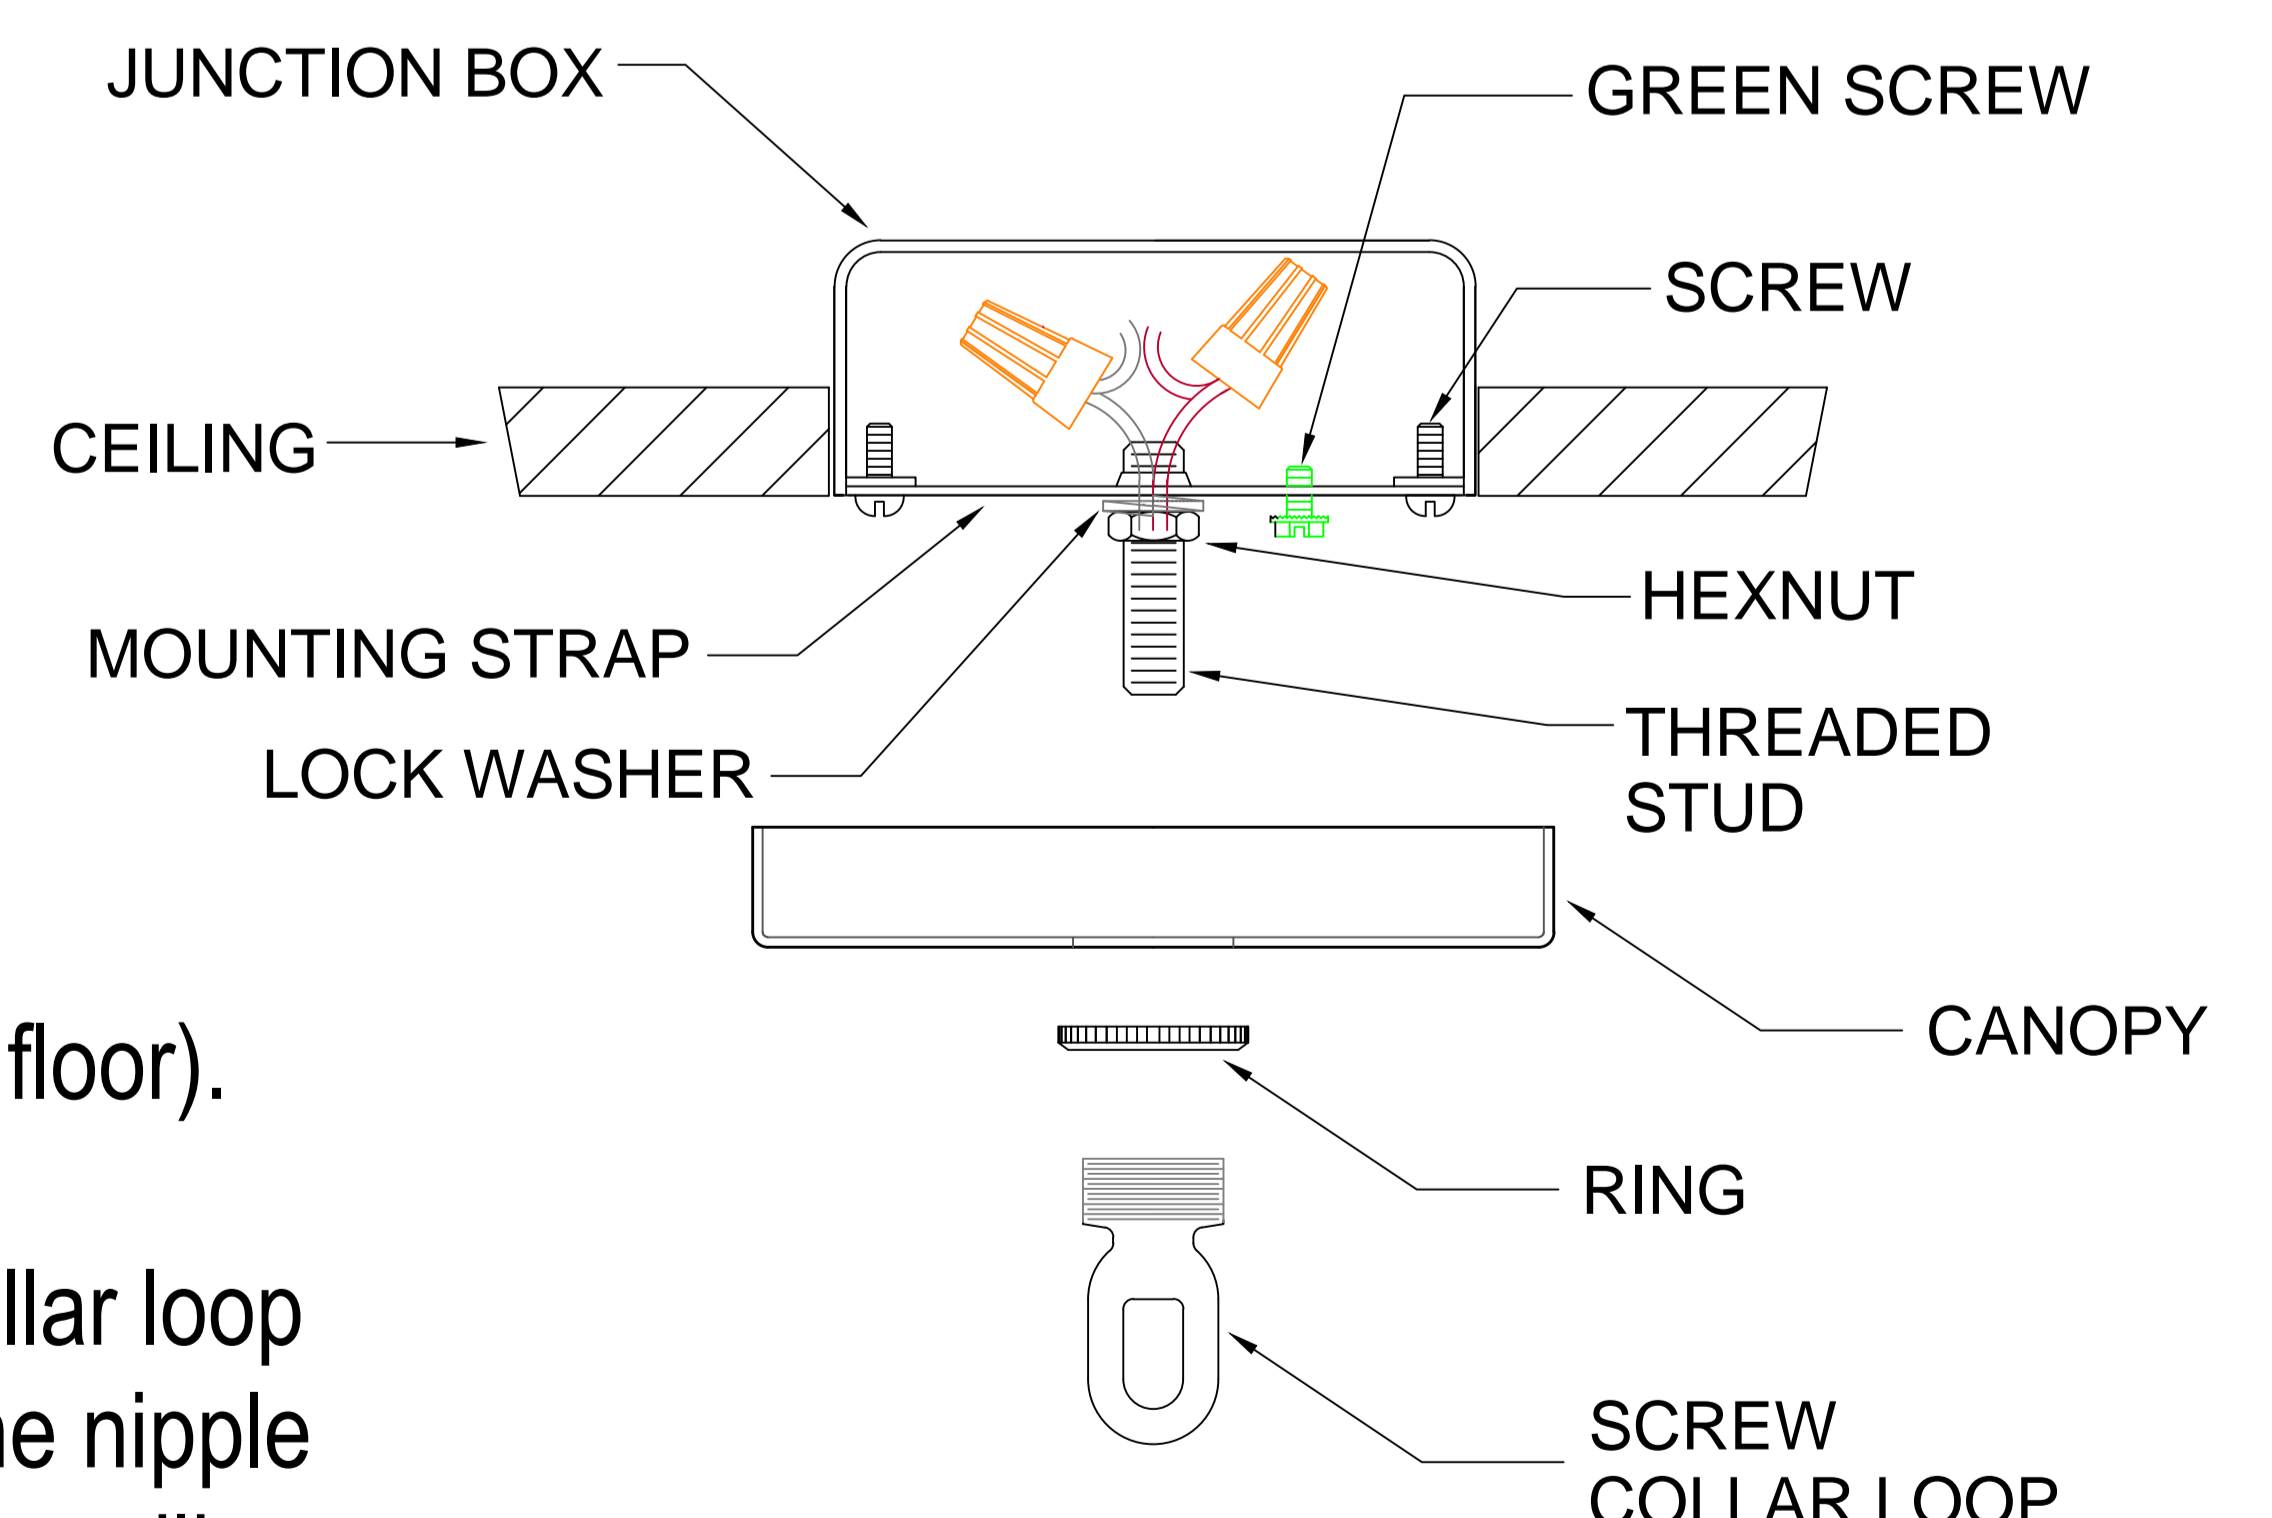

FIGURE-01
2. Remove the threaded ring from the screw collar loop. Fully thread the screw collar loop onto the nipple. Thread the hex nut with the lock washer onto the nipple and the nipple into the mounting strap. Place the canopy over the screw collar and against the ceiling. Adjust the nipple so that $\frac{1}{4}$ " of threads on the screw collar loop extend beyond the canopy. Tighten the hex nut against the crossbar. Using the threaded ring, install the canopy. (See Figure-01)